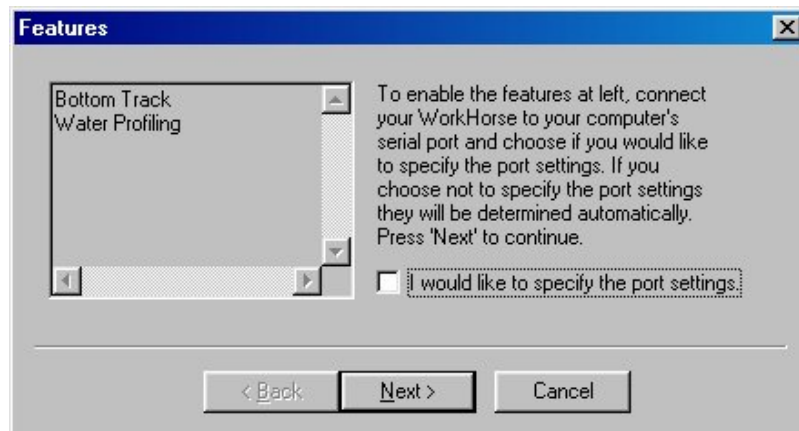

Figure 11. Installing Feature Upgrades
- d. In the **Open** box, type A:xxx.exe, where xxx is the ADCP’s CPU serial number. The installation program will start (see Figure 11). The program is encoded with the ADCP’s serial number and the requested feature upgrade.